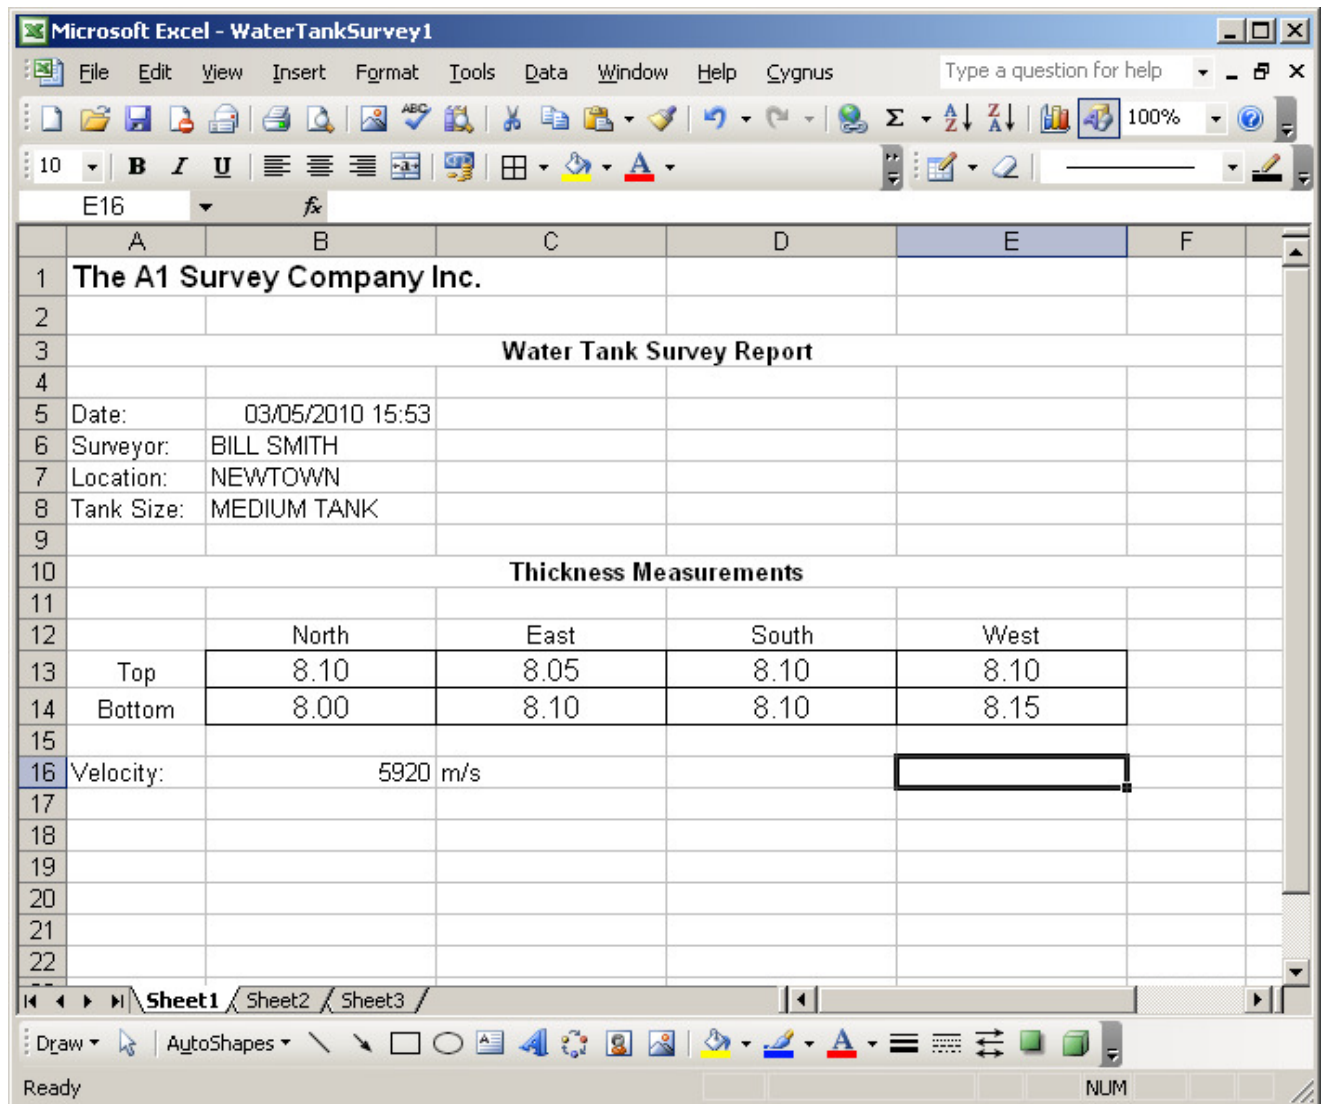

Fig. 11.15. The Completed Water Tank Survey in Excel.
5. A new spreadsheet will open using The Water Tank Survey template and the values collected by the Cygnus 3 Gauge are inserted into the correct cells, fig. 11.15.